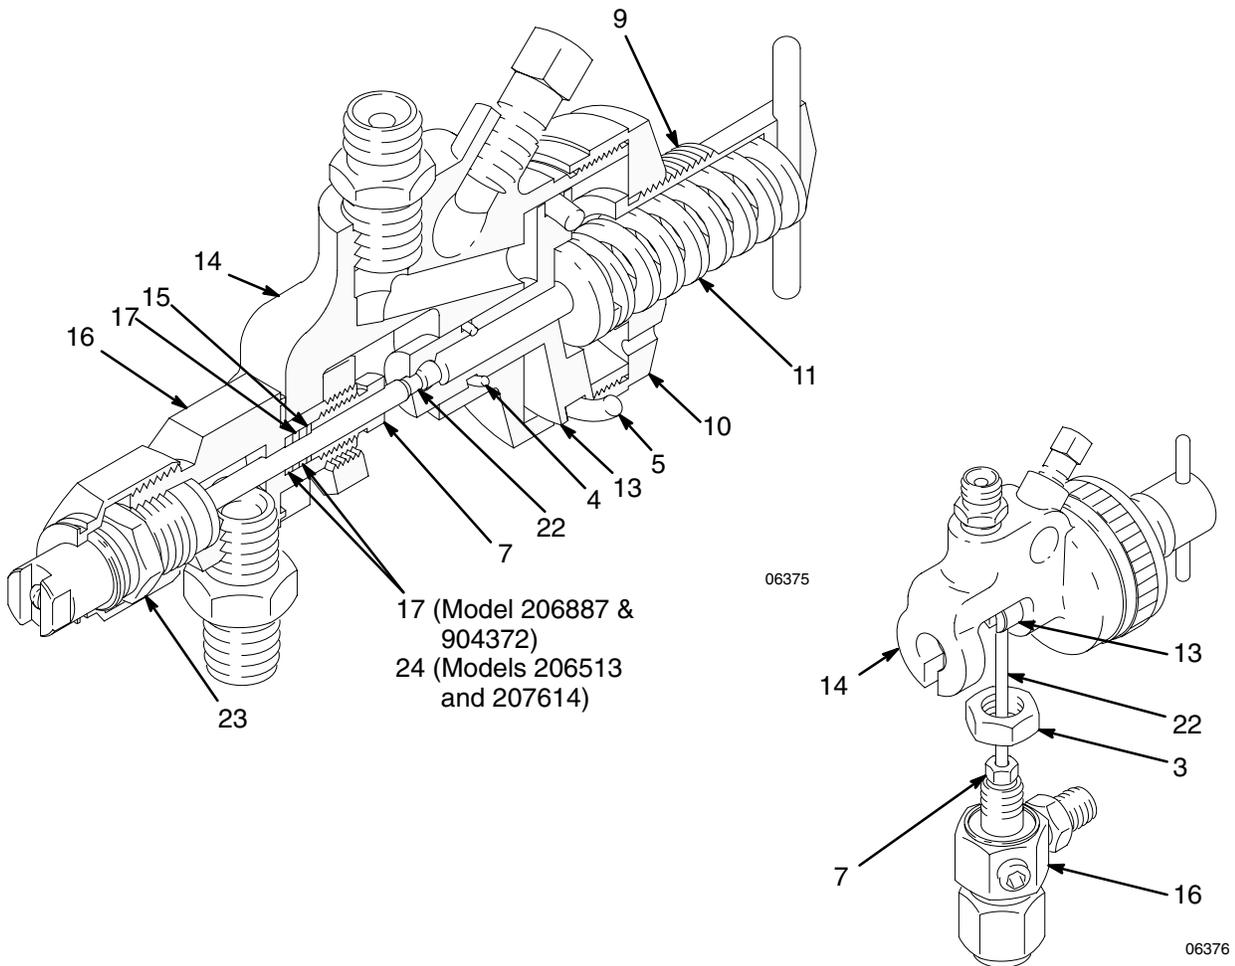

Fig. 2
NOTE: Reference numbers and letters in parenthesis in the text refer to the callouts in the Typical Installation, Fig. 1, Fig. 2, and the parts drawing.
Before each day's operation, lubricate the exposed portion of the needle (22) and the piston (13) with a lubricant compatible with the fluid being sprayed. After lubricating, cover the exposed portions of the needle and piston with a piece of plastic to prevent fluid build-up on these parts. Any spray build-up could damage the valve packings (Parts 17 and 24 on Models 206513 and 207614, Part 17 only on Models 206887 & 904372). See Fig. 2.
Screw the packing nut (7) out and remove the packings (17 or 24), gland (15), and needle (22). Remove the tip and screw the seat (23) out of the housing. See Fig. 2. Handle the needle and seat carefully and inspect them closely for wear or damage. Reassemble the gun using new parts as necessary. Soak a new leather packing in light, compatible oil before installing it.